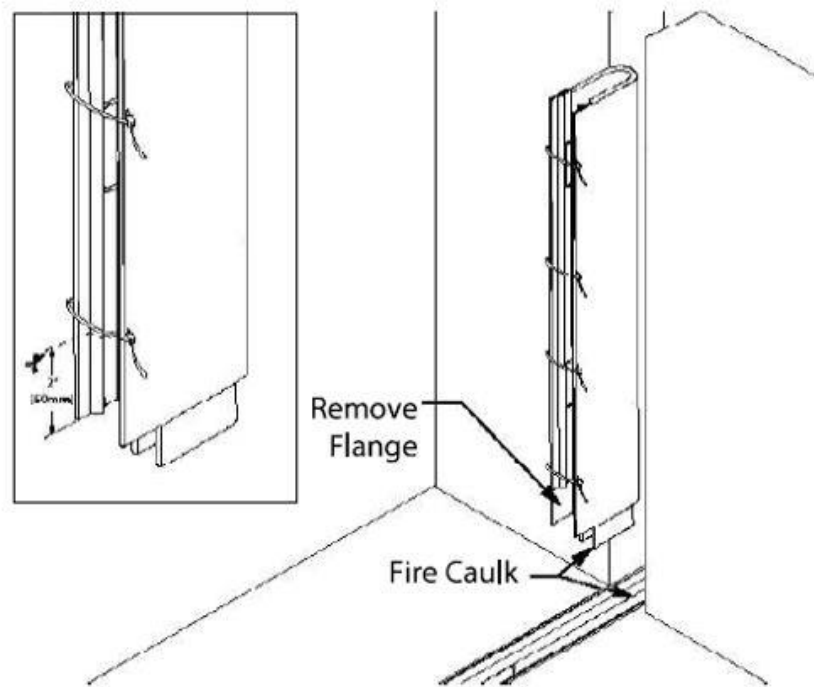

Figure 6
- When the fire barrier meets a rated wall, continue the horizontal fire barrier uninterrupted, or a minimum of the total wall depth to ensure no gaps exist at the intersections. (Reference Figure 8 on next page). If a spring of the horizontal fire barrier is located inside the wall joint, it must be moved to a point before the wall to achieve a proper transition. Maintain a maximum spring spacing of 24" [610mm]. Remove 2.00" [50mm] from each metal flange on the male end of the fire barrier. Apply UL-listed fire caulk liberally to the section of the horizontal fire barrier where the vertical stick will intersect, face of the male end, flanges, and interior walls of the slab before installing the wall stick. (see Figure 7 for more detail – following pages). Insert fire barrier male end down and cut the bottom most zip-tie and continue cutting upward. **See Figure 6 (next page).**